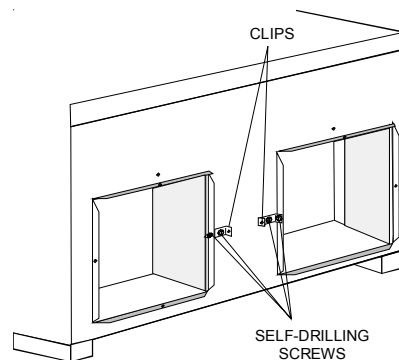

Figure 11 - Cover Clip Installation
1. Install cover clips (included with unit) on the inner flange sides using existing flange hole (Figure 11).